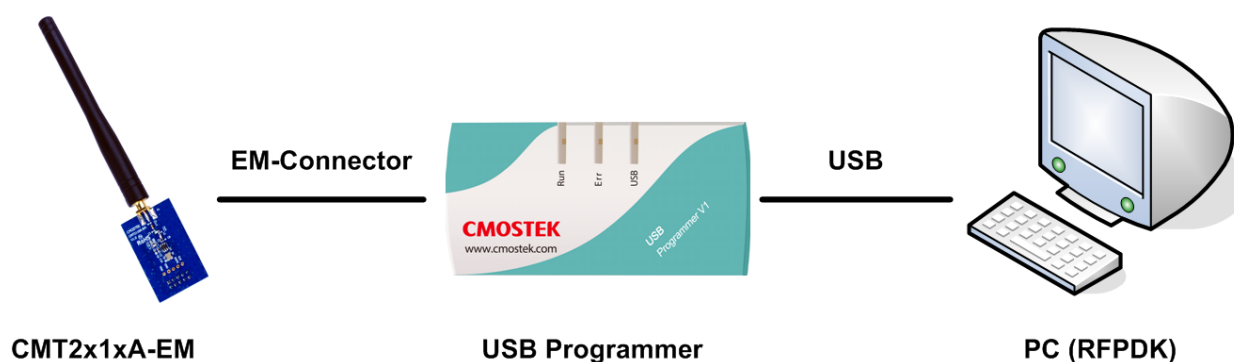

Figure 3. Configuration Setups
1. Setup the configuration scheme as Figure 3.